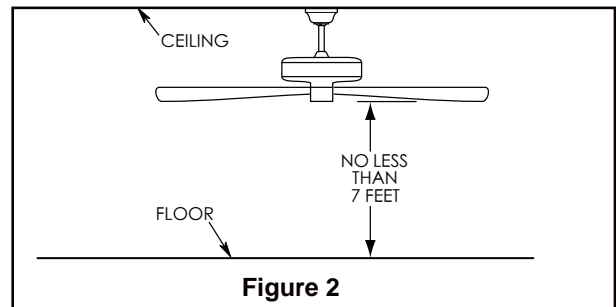

Figure 2
2. Remove the two set screws and locking nuts in the downrod support of the motor assembly and retain for reinstallation in Step 4 of the How to Assemble Your Ceiling Fan section, Page 8. Remove the six screws at the top of the motor assembly and retain them for next step. (Figure 2)
- 2. Remove the hairpin clip and clevis pin from the bottom of the downrod. Retain the pin and clip for reinstallation in Step 4. (Figure 2)
The fan must be hung with at least 7' of clearance from floor to blades. (Figure 2)
**To avoid possible electrical shock, be sure electricity is turned off at the main fuse box before wiring (Figure 2).**